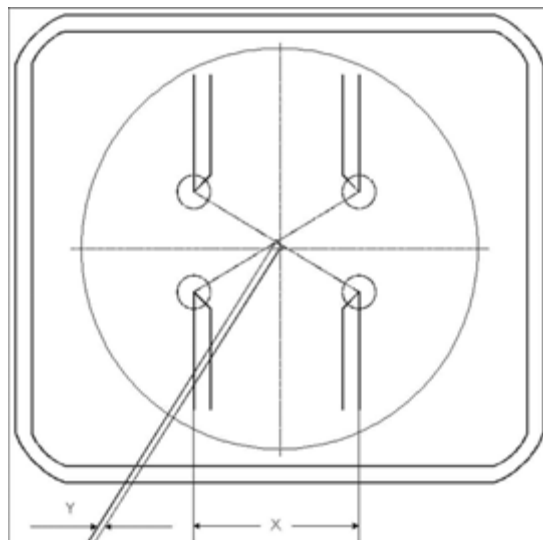

Fig. 18: PDA 2
- Measure the distance X and the center deviation Y with a ruler, see \(Fig. 18 / p. 24\).